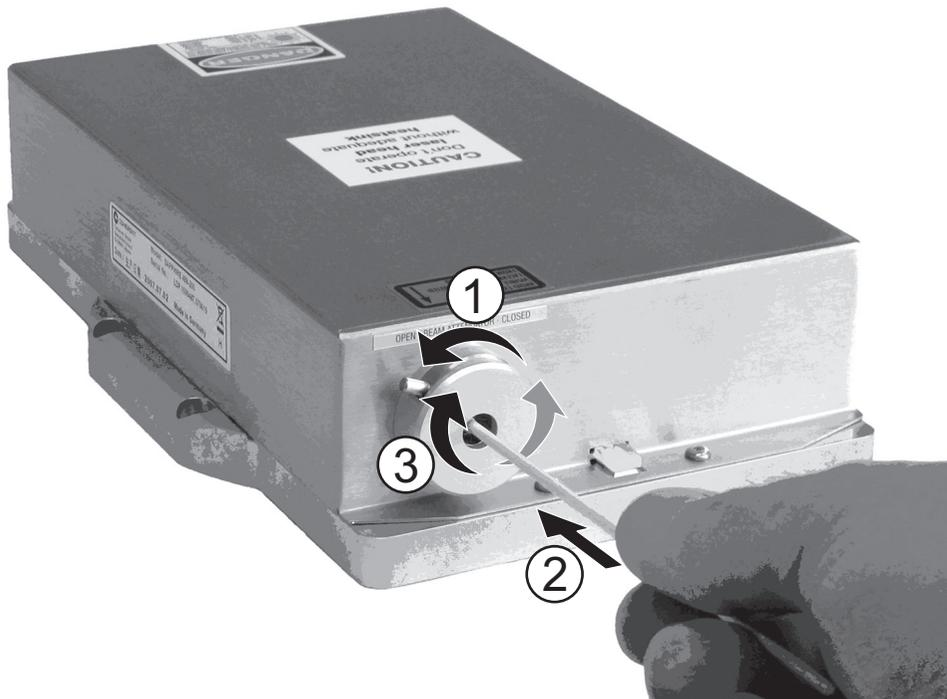

Figure 4-2. Cleaning the Output Window
1. Open the beam shutter—# 1 in Figure 4-2 (p. 4-2).
3. ***Using very low pressure***, gently insert the cotton swab into the aperture hole until the swab hits the bottom of the hole—# 2 in Figure 4-2 (p. 4-2).
4. Gently rotate the cotton swab back and forth several times from the center to the sides of the Beam Output window—# 3 in Figure 4-2 (p. 4-2).